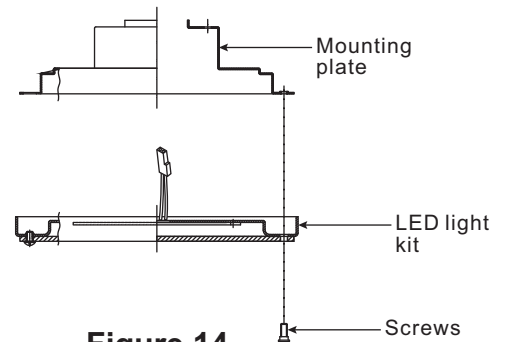

Figure 14
Step 2. Remove the LED light kit from the mounting plate. (Fig. 14)